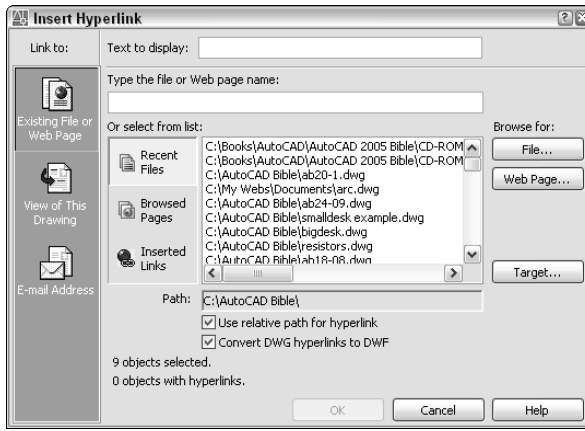

Figure 28-4: The Insert Hyperlink dialog box attaches hyperlinks to objects in your drawing.
2. Choose Insert ⇨ Hyperlink (or Ctrl+K) to open the Insert Hyperlink dialog box, shown in Figure 28-4. (If you start the command first, select objects at the prompt.)